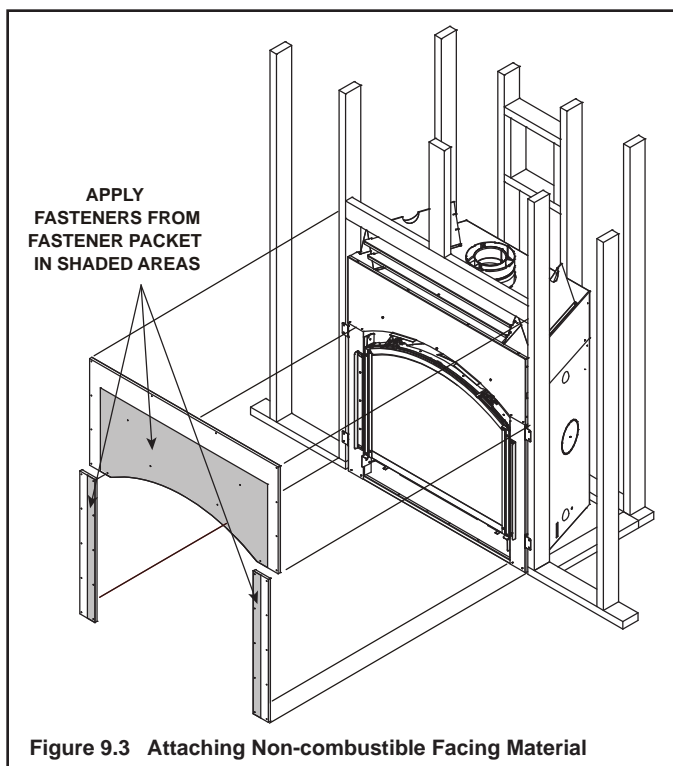

Figure 9.3 Attaching Non-combustible Facing Material
- Center and attach top board to the framing members (see Figure 9.3).
- Use fasteners from fastener packet (in manual bag) in shaded areas (Figure 9.3).
- Use regular sheetrock screws in non-shaded areas (see Figure 9.3).
- Attach the left and right side pieces to the framing members. (See Figure 9.3).